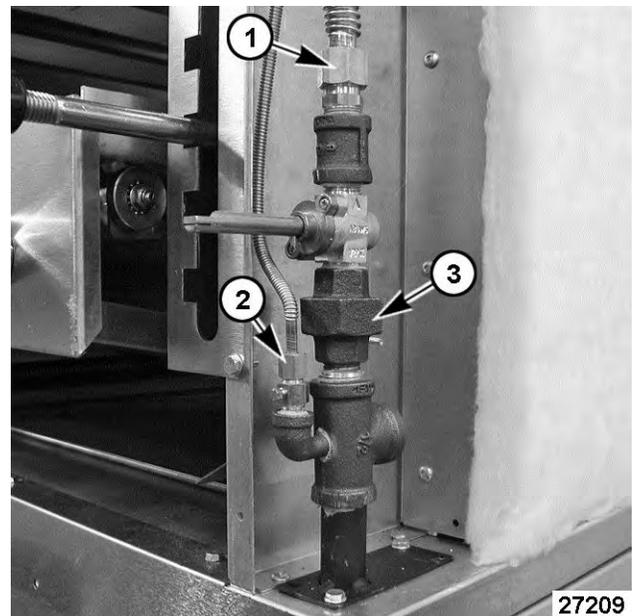

Fig. 7
4. Disconnect compression nut [1] Fig. 7 above the control valve for the burner gas supply.
5. Disconnect flexible tubing compression nut [2] Fig. 7 from the pilot valve adjustment fitting.
6. Separate union fitting [3] Fig. 7 at the bottom of control valve to remove the valve.